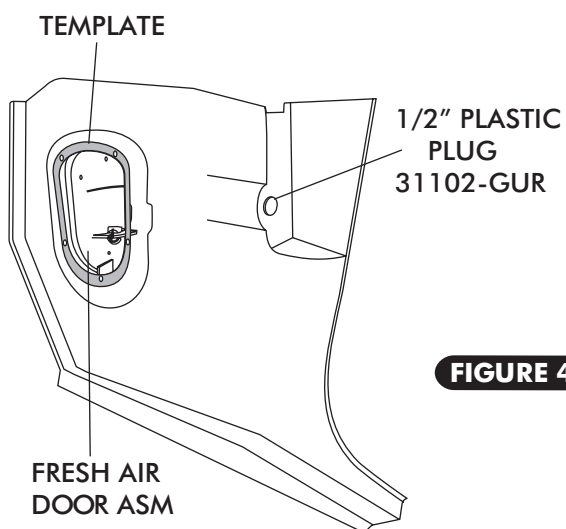

FIGURE 4
- INSTALL 1/2" PLASTIC PLUG TO FILL THE HOLE LEFT FROM THE REMOVAL OF THE PULL CABLE ASM. SEE FIGURE 4 BELOW.
- CUT FRESH AIR DOOR ASM AS SHOWN IN FIGURE 4 BELOW.